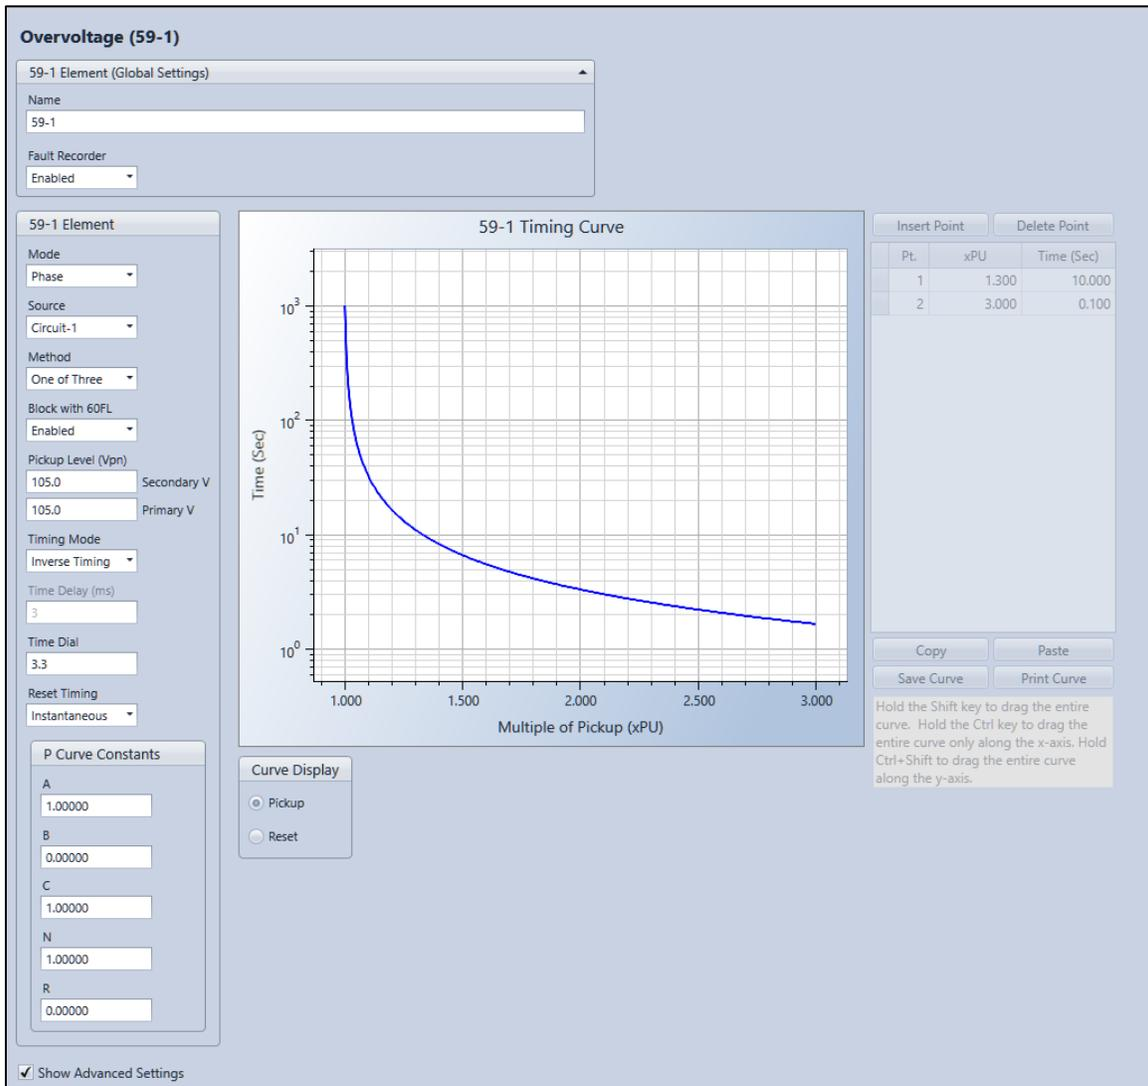

Figure 32-2. Overvoltage Settings Screen
Overvoltage element operational settings are configured on the Overvoltage (59) settings screen (Figure 32-2) in *BESTCOMSPlus*.